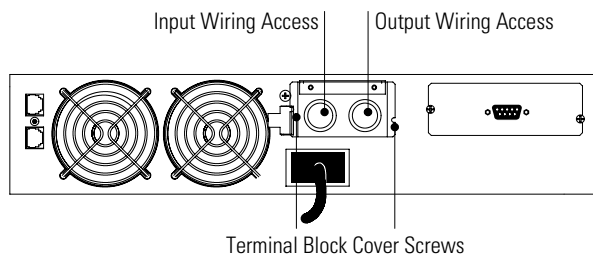

Figure 21. Wiring Access and Terminal Block
3. Remove the terminal block cover and the wiring knockouts (see Figure 21). Retain the terminal block cover and screws.